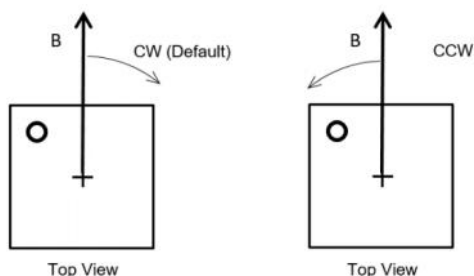

Figure 18: Positive Rotation Direction of the Magnetic Field
By default, when looking at the top of the package, the angle increases when the magnetic field rotates clockwise (CW) (see Figure 18 and Table 12). Figure 18 shows the positive rotation direction of the magnetic field.